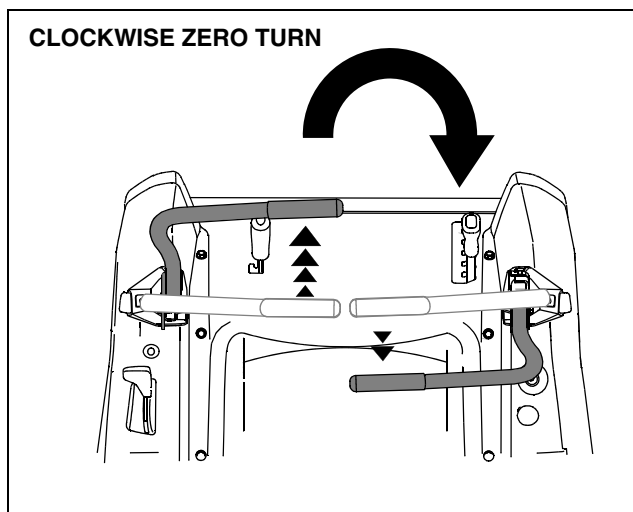

Figure 18
- To turn clockwise, slowly move the left control lever forward while simultaneously moving the right control lever rearward. See Figure 18.